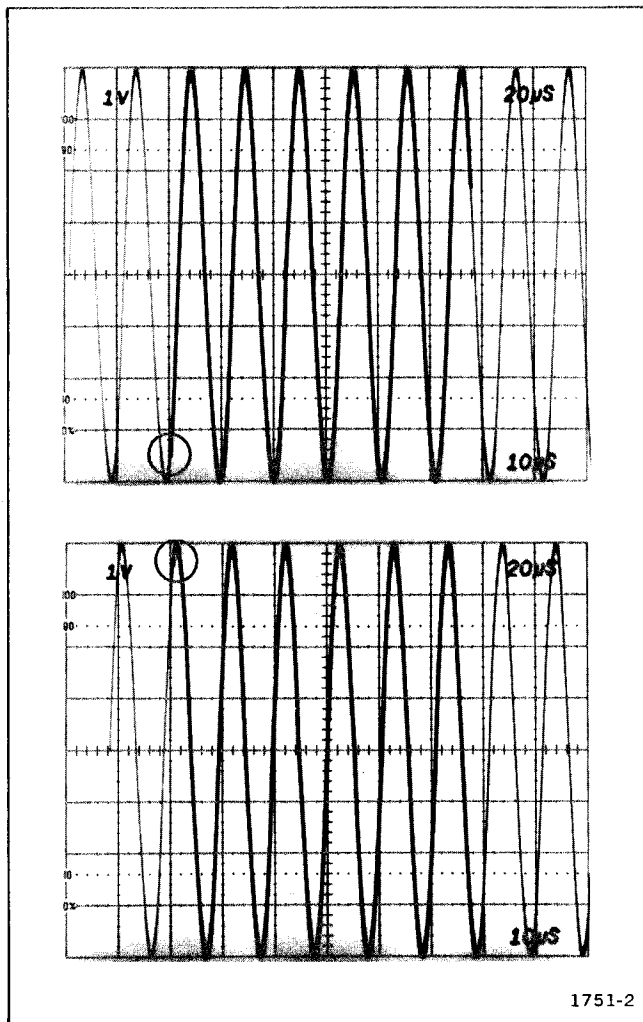

Fig. 5-8. Delayed Triggering level range. (Circle denotes triggering limits.)
- c. Check—that all levels of the positive slope of the intensified zone may be selected for the sweep starting point as the Delayed Triggering LEVEL control is rotated throughout its range, and that triggering occurs at least 3.5 divisions above and below the center horizontal graticule line. See Fig. 5-8 for reference.